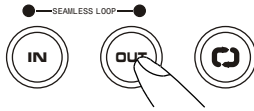

Fig.6
- b- Next, press OUT/EXIT BUTTON to return to normal play (figure 6). This disengages the SEAMLESS LOOP mode.